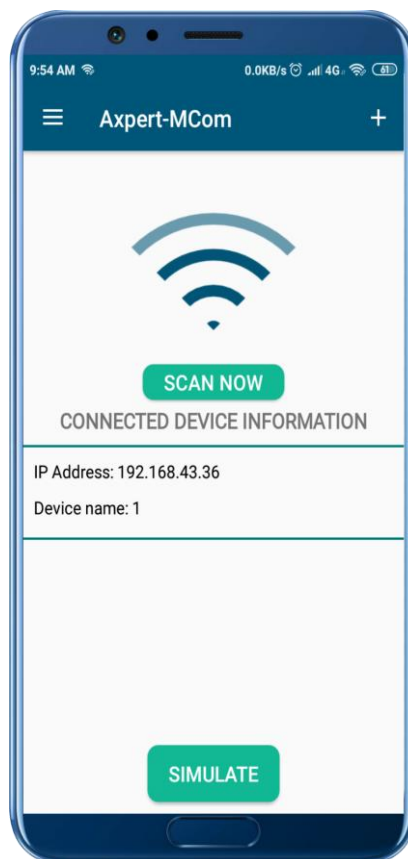

Figure 8: Connected Product Information
- A list of all the connected products will show up on your dashboard (Figure 8).